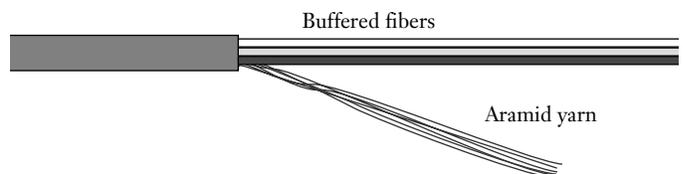

Figure 7
4.7 Use scissors to cut the aramid yarn to the length recommended in the documentation for the product you are installing (Figure 7).